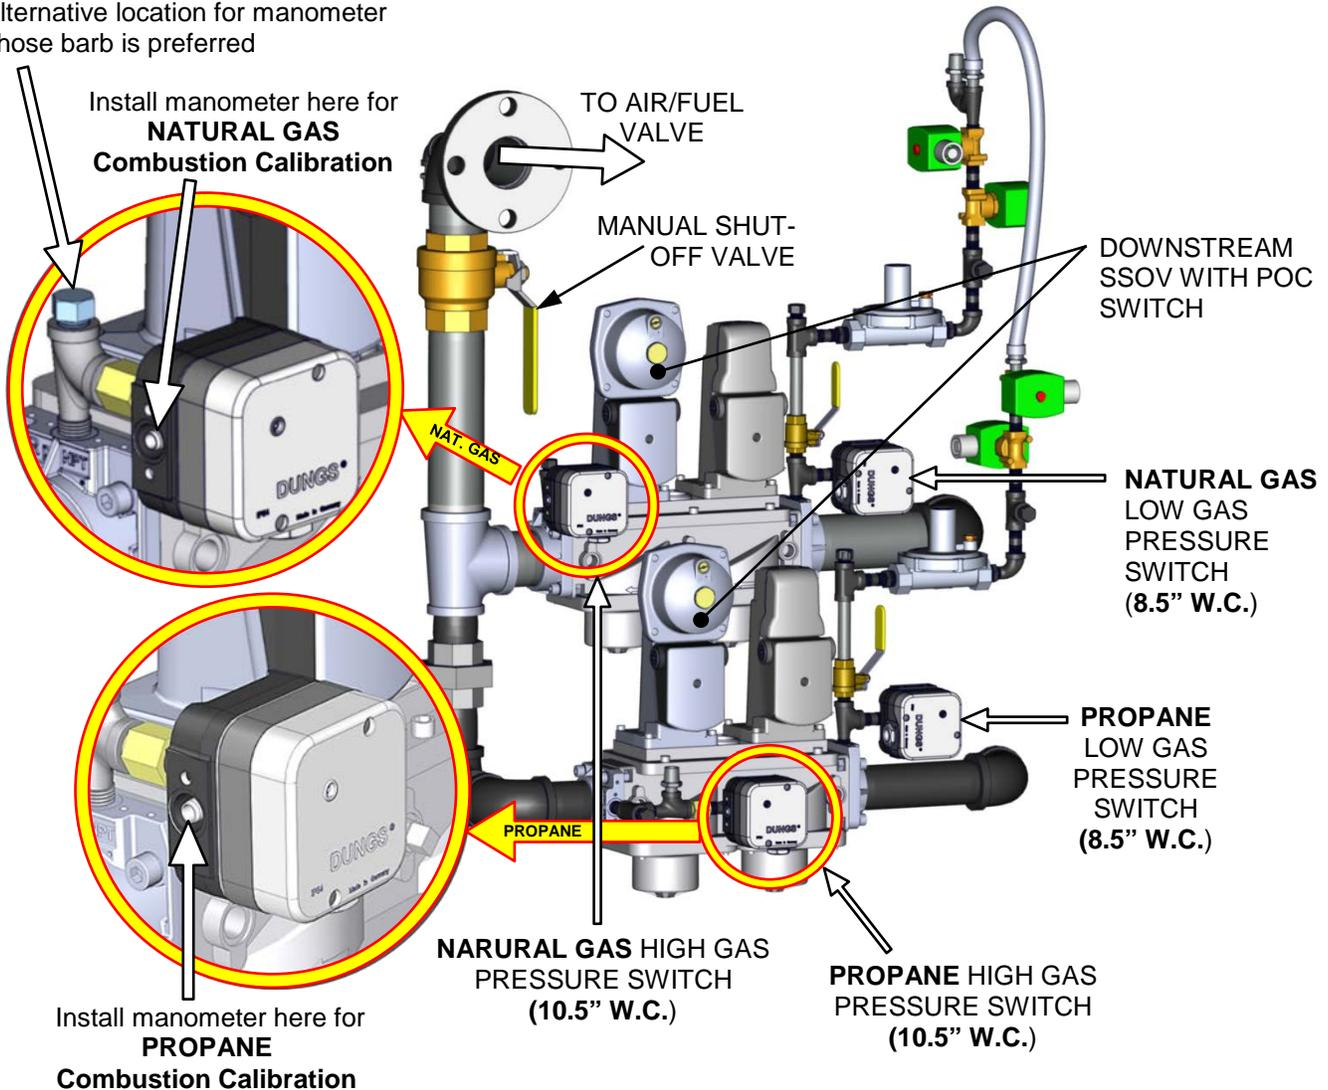

Figure 4-1: Port Locations for Combustion Calibration Measurements
The gas supply manometer (or gauge) is used to monitor the gas pressure on the downstream side of the SSOV during the Combustion Calibration procedures (sections 4.4 & 4-5). The gas supply manometer is installed in the appropriate High Gas Pressure Switch port (Propane or Natural Gas), as shown in Figure 4-1.
3. To monitor the gas pressure on the downstream side of the SSOV during Combustion Calibration (section 4.4 and 4.5), locate the appropriate port (Natural Gas or Propane) on the side of the High Gas Pressure Switch, as shown in Figure 4-1, and loosen the screw inside the port a few turns to open. Do not remove the screw. Alternatively, you can remove the 1/4 inch plug shown in Figure 4-1 and install a hose barb fitting in that location.
The Pilot Burner should be inspected at the beginning of each heating season, or every 6 months for continuous operation units. It is constructed of high quality, heat resistant stainless steel materials, however some darkening of the metal is to be expected. No adjustment of the Pilot should be required, however the gas pressure downstream of the regulator should be checked if an ignition issue is encountered. Refer to Figure 4-1 for test port location.